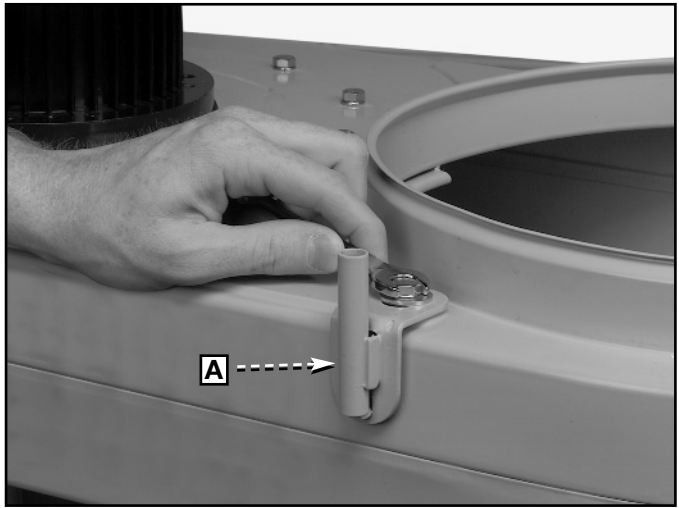

Fig. 11
2. Position bracket (A) to dust collector as shown in Fig. 11.